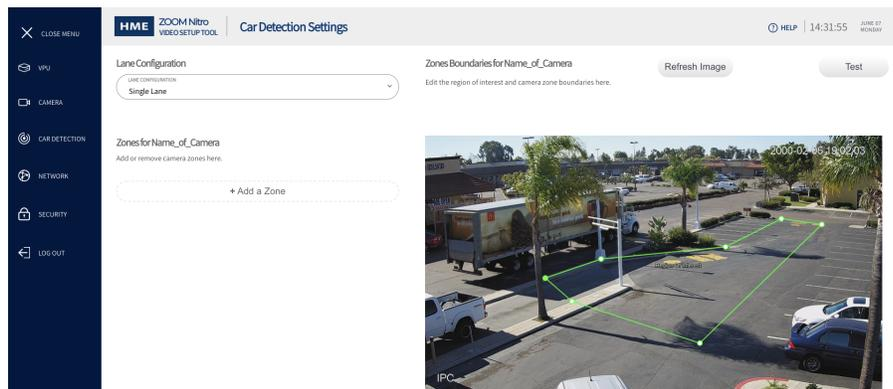

Fig. 6.3
3. Each corner has an anchor point (indicated by a dot) which can be grabbed using your cursor and moved independently to a desired location within your field of view. Use these anchor points to define the ROI, (see new boundary lines in Fig. 6.3). You can also insert additional anchor points to create more complex shapes or delete anchor points to simplify. Fig. 6.3 has three more anchor points added to create this new ROI boundary.
- After you draw the ROI, click Save (the “+ Add a Zone” button appears), see Fig. 6.3.